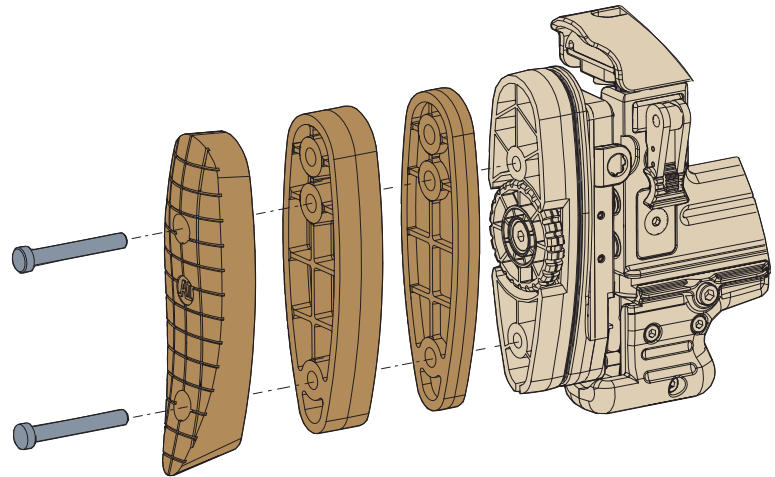

Fig 20
- Fit the butt and spacers as shown in Fig 20.